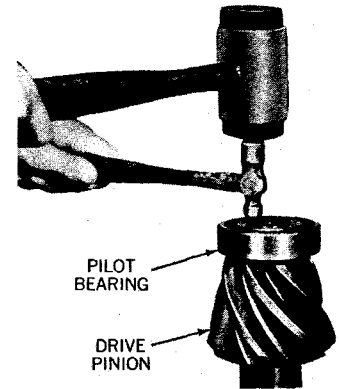

Fig. 16. Staking Pinion Pilot Bearing (Stake in four places)
1. Press pilot bearing on drive pinion, then stake (four places) as shown in figure 16.